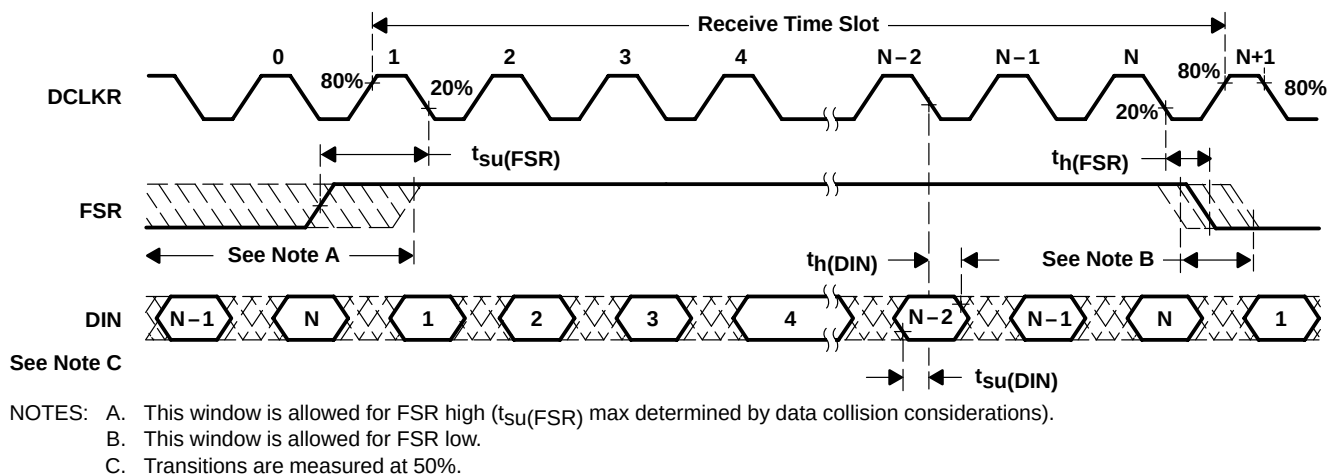

Figure 3. Variable-Data Rate Mode, Receive Side Timing Diagram
**receive timing requirements over recommended ranges of supply voltage and operating free-air temperature, variable-data-rate mode (see Figure 3)**